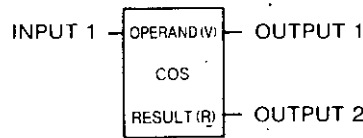

Fig. 5.50 COS General Form
(2) Form
- Fig. 5.50 shows the form of cosine (COS).